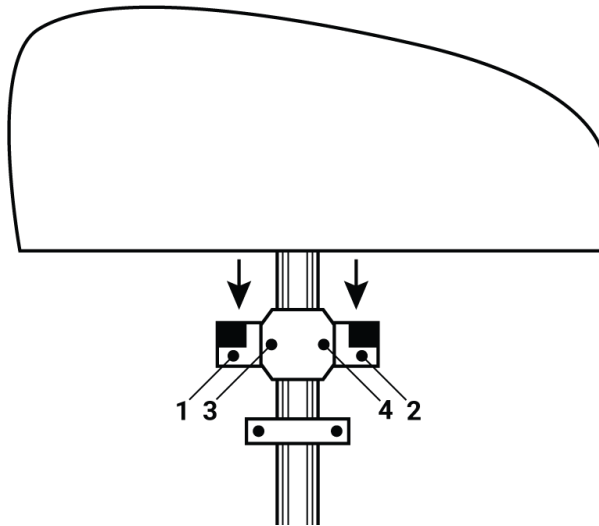

Figure 1: Installing Glass into Mount
1. Loosen the two nuts on the clamps marked "1" and "2" in *Figure 1*. Next loosen the two bolts marked as "3" and "4" in *Figure 1*.